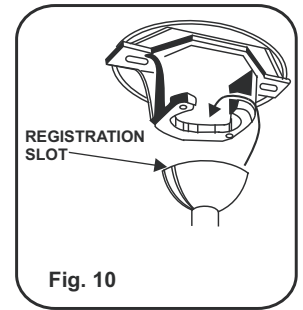

Fig. 10
**Step 6.** Now lift motor assembly into position and place hanger ball into hanger bracket. Rotate until the check groove has dropped into the registration slot and seats firmly.(Fig 10) Rod should not rotate if this is done correctly.